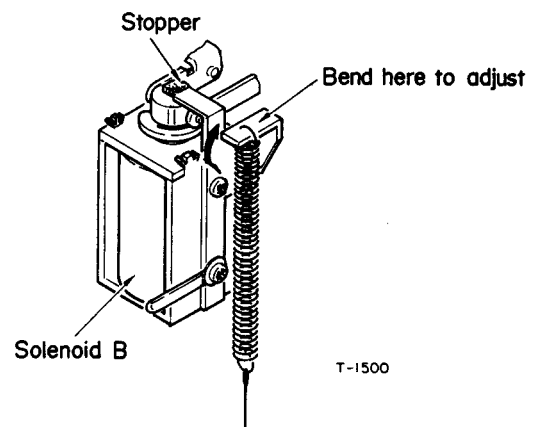

Fig. 5-5 Cassette Holder Motion Adjustment
5. If the cassette holder does not open fully, adjust the tension of the damper spring by bending the bent-section of the stopper in either direction indicated by the arrows as illustrated in Fig. 5-5 to obtain the above condition.